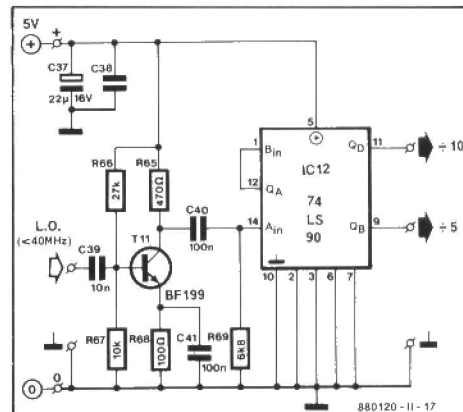

Fig. 8. Circuit diagram of the 40 MHz prescaler with divide-by-five and divide-by-ten outputs for use with SW receivers.
The circuit diagram of the prescaler for SW receivers is shown in Fig. 8. Transistor T_{11} ensures that the local oscillator
- SW prescaler (Fig. 8);